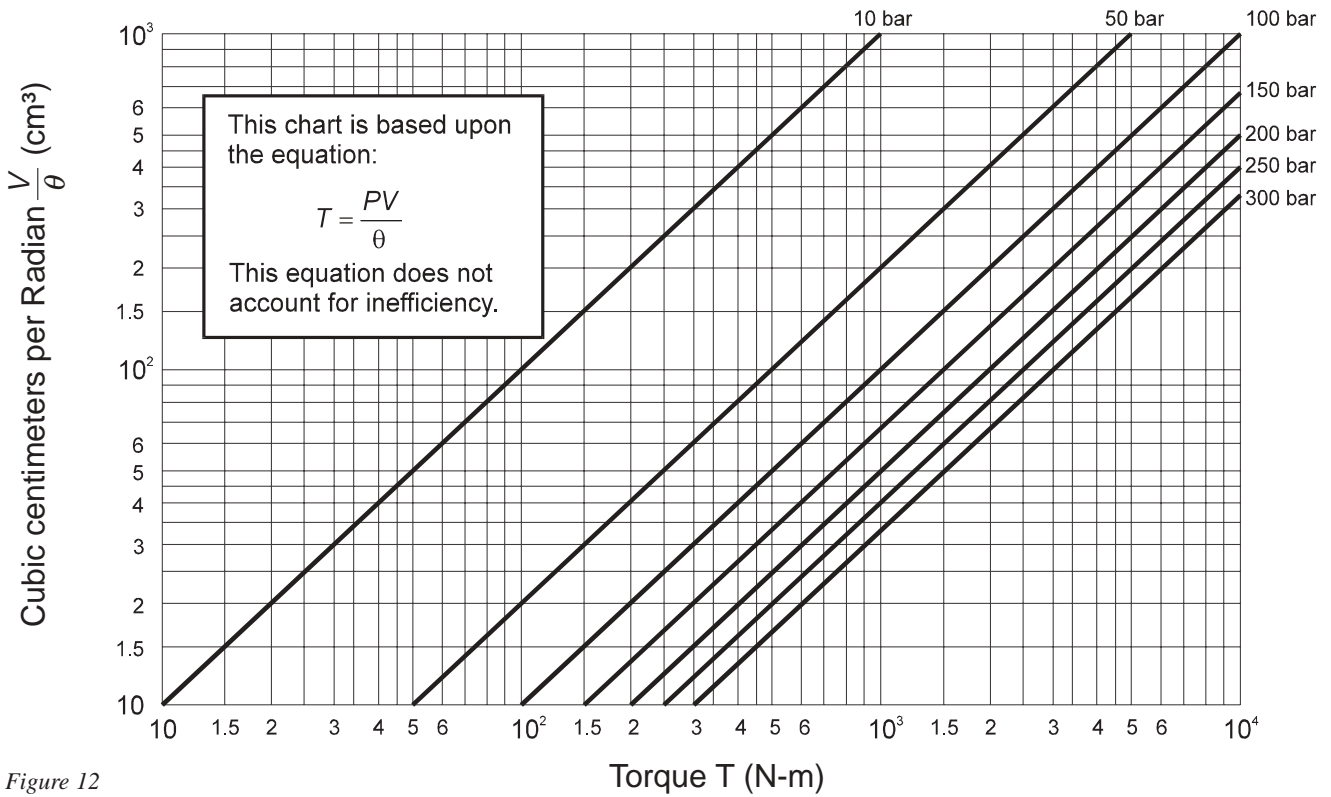

Figure 12
- C. Calculate V/θ based upon T_D and the maximum system pressure chosen in Step A. V/θ is the volume displacement per one radian of rotation for a rotary actuator. V/θ can be calculated from the Equation 7, or by using Fig. 14. (Fig. 12 for S.I. units).
- H. Select a rotary actuator with a torque rating greater than T_D , a displacement greater than V , and a pressure rating greater than P_C . Calculate system operating pressure P based upon the selected actuator’s rated torque T , and the selected actuator’s V/θ value using Equation 10 or Fig. 12.